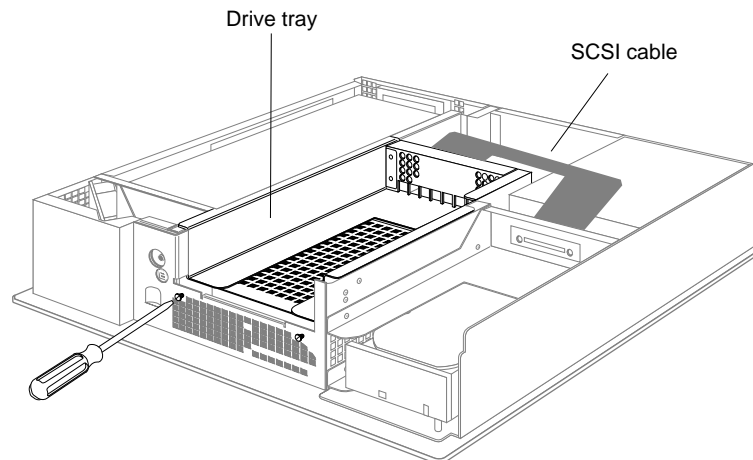

Figure 8-21 Disconnecting the SCSI Cable from the 5-1/4" Drive Tray
3. Move the system, or position yourself so that you are facing the front of the system, as shown in Figure 8-21.
- Disconnect the SCSI cable from the connector on the back of the 5-1/4" drive tray. (See Figure 8-21.)